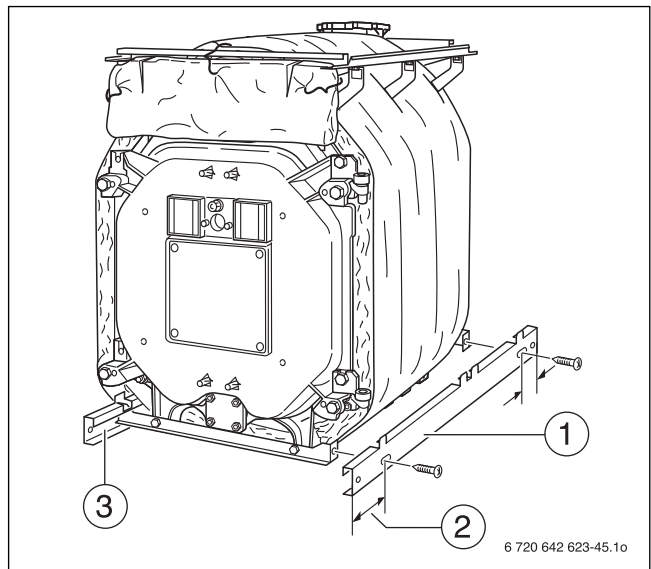

Fig. 47 Mounting the side base rails
- ▶ Hook each base rail (→ Fig. 47, [1 and 3]) with the long projection facing toward the front (→ Fig. 47, [2]) into the bottom crosswise profile rails.